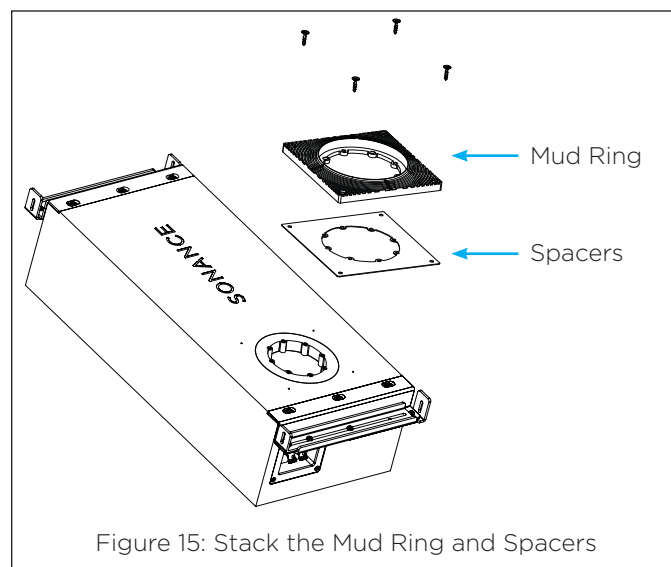

Figure 15: Stack the Mud Ring and Spacers
3. Stack the appropriate spacers with either a round or square mud ring (see Figure 15).
6. Fasten the mud ring at all four corners using the 4 included wood screws (see Figure 15).